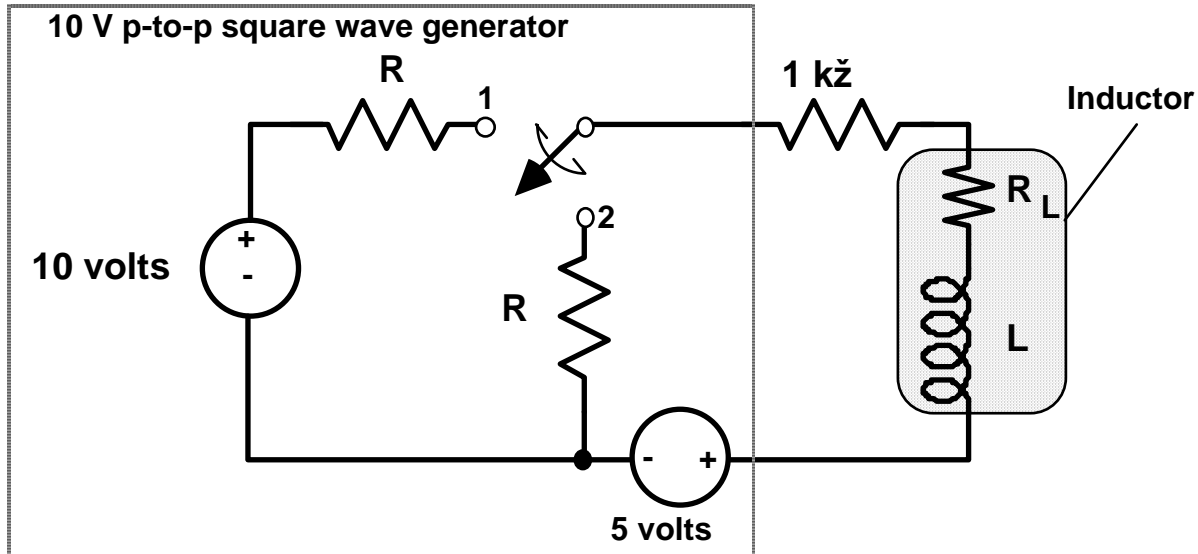
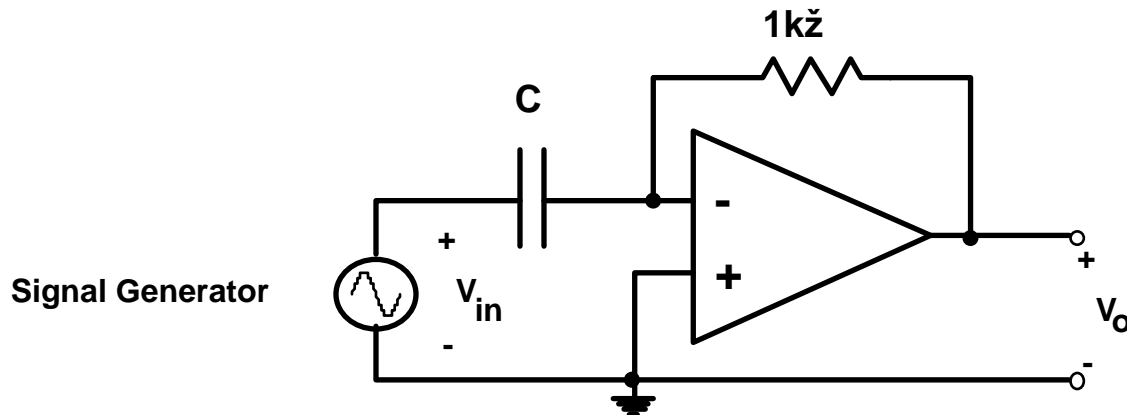

Figure 13.1
Figure 13.2
(I) A DC power supply ($R = 600 \Omega$ internal resistance) furnishes 10 V peak-to-peak to a 0.4 H inductor (which has 140Ω internal resistance). At $t=0$, the switch moves from position 1 to position 2. (See Figure 13.1). The switch has a "make-before-break" action which means that the current in the inductor is **not** interrupted when the switch moves. NOTE: A 10 volt (peak-peak) square wave from the signal generator is actually a +5/-5 signal, i.e., varies about zero.
(III) Analyze the op amp differentiator circuit ($C=0.1 \mu\text{F}$) of Figure 13.2 (using section 7.5 of the reference). Assume a sine wave input (of arbitrary magnitude), and include a 600Ω source resistance with the signal generator.
(1) Connect the circuit shown in Figure 13.1 *but substitute the square-wave generator in place of the DC power supply and switch circuit*. Note the generator just happens to also have a 600Ω internal impedance. The on/off action of the square wave generator also substitutes for the switch. Adjust the square wave output to **10 V P-P (peak to peak)**. Next, adjust the generator frequency so that the output reaches a maximum stable value during the positive half cycle. This should be a frequency $=1/(10TC)$ Graph the voltage and current in the inductor as a function of time.
- (2) Adjust the frequency to 10 times the setting from part 1 and graph the voltage across the inductor and the voltage across the 1k Ω resistor.
- (3) Adjust the frequency to 1/10 of the setting from part 1 and again graph the voltage across the inductor and then the 1 k Ω resistor.
- (4) Connect the circuit of Figure 13.2 ($C=0.1 \mu\text{F}$). Set the **square** wave generator to 0.5 V p-p and graph the output at 500 Hz. Change the input to a 1.0Vp-p **sine** wave and graph the output at 500 Hz, 5 kHz, and 50 kHz. Be sure the oscilloscope is set to DC coupling and observe the input on channel A and output on channel B. Also remember the op amp requires a positive and negative power supply (pin 7 pos, pin 4 neg, pins 1,5,&8 are not used).
- (5) Exchange the position of the resistor and capacitor. What function should the circuit implement? Set the square wave generator to 1.0 Vp-p (before connecting to the OP AMP circuit) and graph the output at 100 Hz and 1 kHz. Then connect the largest resistor available in your kit across the capacitor and note what happens.